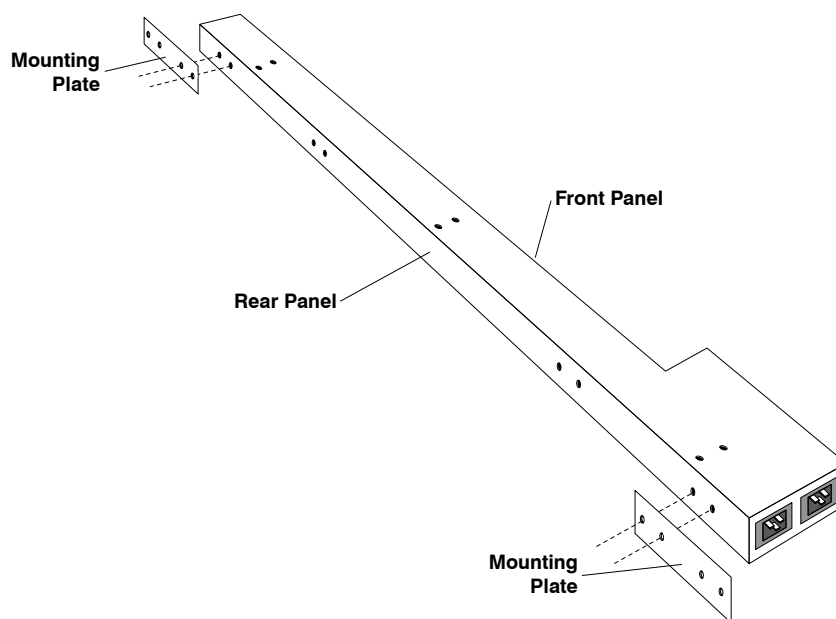

Figure C.4: Installing Mounting Plates
1. **Attaching the Brackets to the NBB:** Determine which direction the NBB will face after mounting, and then secure the Mounting plates to the NBB as shown in Figure C.4, using the screws provided with the mounting brackets.
2. **Attaching the Mounting Plates to the Equipment Rack:** Determine which direction the NBB unit will face in the rack, then line the screw holes in the Mounting Plates up with two holes in the equipment rack mounting strip. Make certain that the unit is level, and then use two screws to secure each Mounting Plate to the rack as shown in Figure C.4.